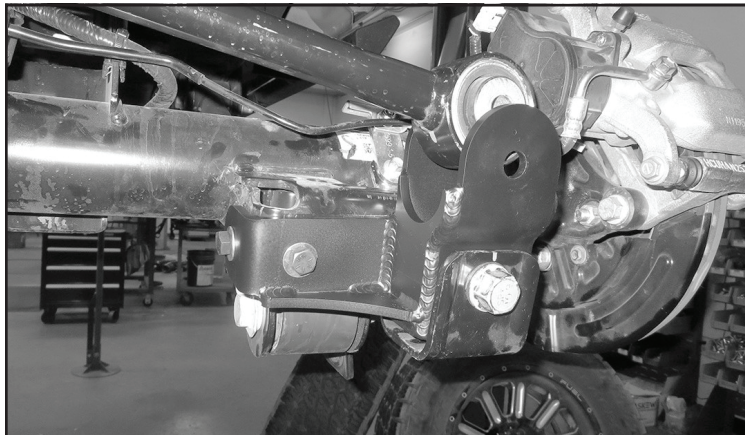

FIGURE 25 - STEP 37
37. Reinstall the new Fabtech bracket using the factory bolt and the supplied 7/16" hardware. Torque the factory bolt to 160 ft-lbs and the 7/16" hardware to 65 ft-lbs. **SEE FIGURE 25**